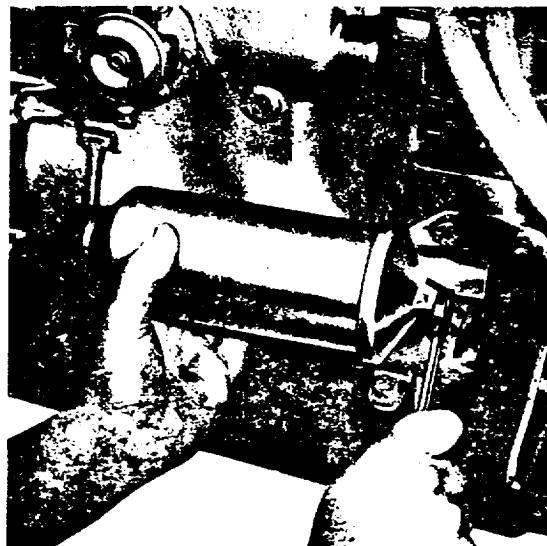

Fig. L.13.
2. Unscrew the filter bowl securing bolt as shown in Fig. L.13. A suitable container should be placed beneath the filter to catch the oil in the bowl as the securing bolt is slacked.